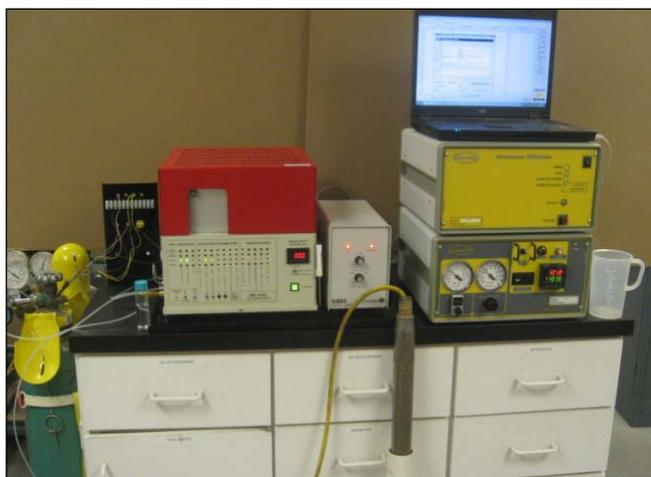

Figure 5.1: The MIP probe is placed into a steel or PVC pipe containing the standard solution.
Quality assurance (QA) is performed before and after each log to validate that the equipment being used is capable of generating good data. With MIP, chemical response tests (Fig. 5.1) must be performed to ensure that the probe, trunkline and series of detectors are working properly. The electrical conductivity (EC) portion of the MIP system is tested using an EC dipole test jig (Fig. 5.4)
4. Pour the working standard into a nominal 2-inch x 24-inch PVC pipe and immediately insert the MIP into the solution (Fig. 5.1). Leave the probe in the test solution for 45 seconds. At the end of 45 seconds, place the probe back in into a clean water source.